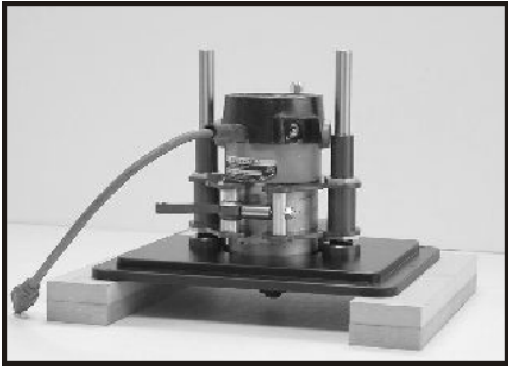

Figure 1
2. Before installing the router motor, prop the unit up on blocks of wood (Fig. 1) so the router's collet can extend through the center hole in the top plate. The motor housing must slide all the way through and contact the inside back of the center hole on the plate.